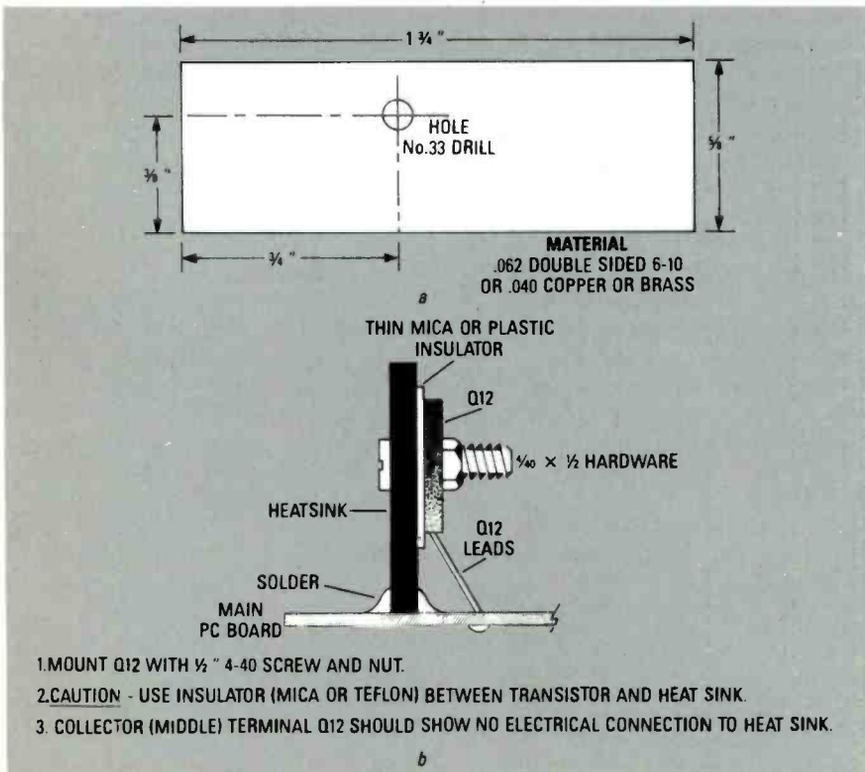

FIG. 5—THE ALUMINUM PLATE THAT IS USED AS A HEAT SINK FOR Q12 also functions as an RF shield for transistors Q6 and Q7.
7. Transistor Q12 must be heat-sinked because it must dissipate up to 3 watts. The method shown in Fig. 5 has proven adequate if at least 1-ounce copper is used. On the other hand, Q7 is adequately heat-sinked if the metal case is soldered to the PC-board ground plane.
Here's how to tune the 2nd and 3rd doublers. Connect an RF probe to the junction of L9 and R19, or to the junction of C25 and L9 if you're building the low-power version. Figure 5 shows you how to build an RF probe if you don't already have one. Adjust C15, C17, C18, C19, C21, and C25 for a maximum reading. You should be able to obtain at least 1.5 volts of RF energy at the junction of R19 and L9 for the high-power version, and about 2 volts at the junction of C25 and L9 for the low-power version. If everything looks good, that checks out stages Q1 through Q5.